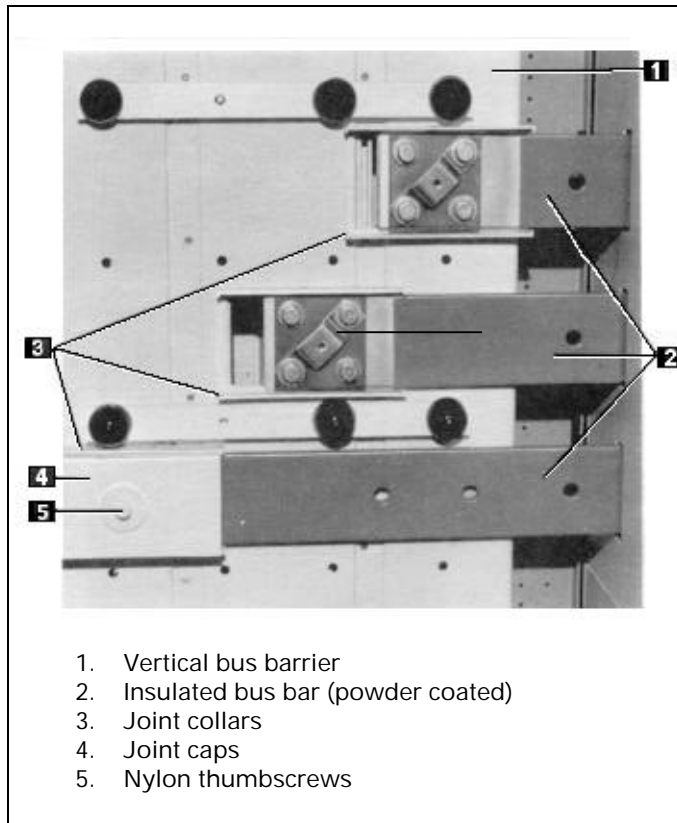

Fig. 3-19. Horizontal bus insulation system
Fig. 3-19 illustrates the various components comprising the insulation/isolation system for the horizontal main bus bars. The horizontal bus bars (2) are insulated with an epoxy coating applied by a fluidized bed process. The vertical/horizontal bus bar joints are covered with collars (3) and caps (4) held in place with nylon thumb screws (5). The collars and caps are constructed from insulating material.